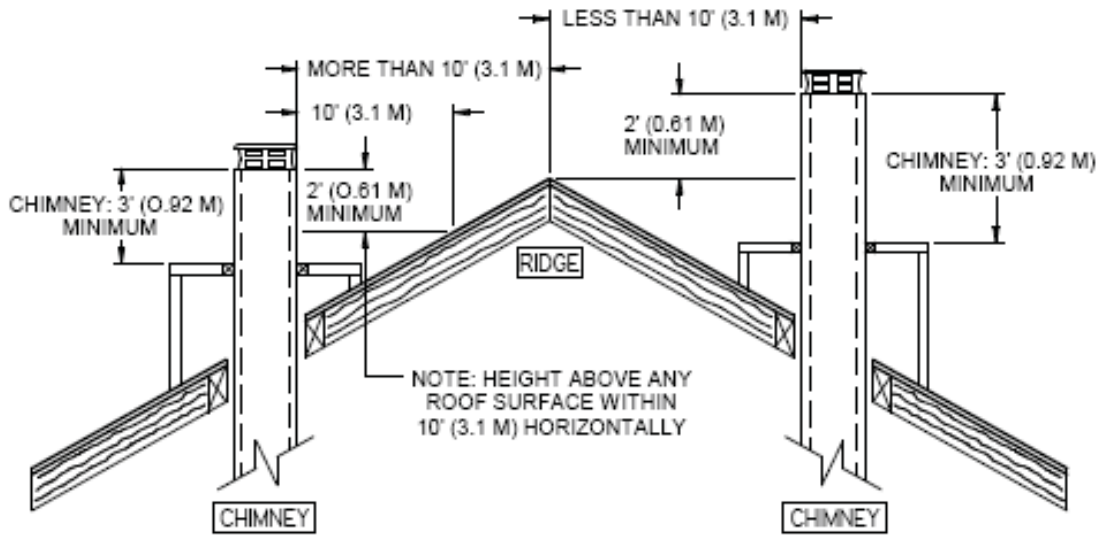

Figure 36c
12. When you build a chase enclosure for chimney sections above the roof, the chimney must extend at least 3 ft. (92 cm) above the chase enclosure and at least 2 ft. (61 cm) higher than any wall, roof or building within 10 ft. (3.1 m) of it. See **Figure 36c** and **36d** to determine the configuration that applies to your roof (flat or sloped roof and the distance between the chimney and the highest point of the roof and/or the nearest chimney).